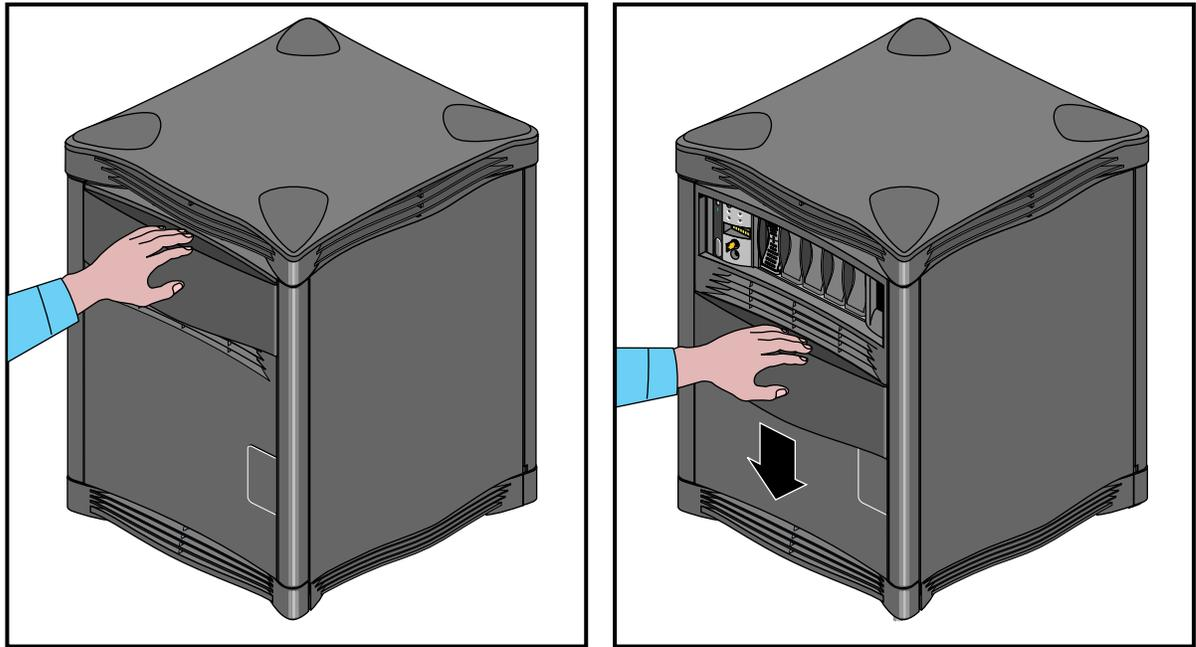

Figure 3-1 Opening and Closing the Sliding Front Panel
2. Slide it downward until it locks in position. You should have clear access to the drives and the System Controller interface panel. See Figure 3-1 for an example.